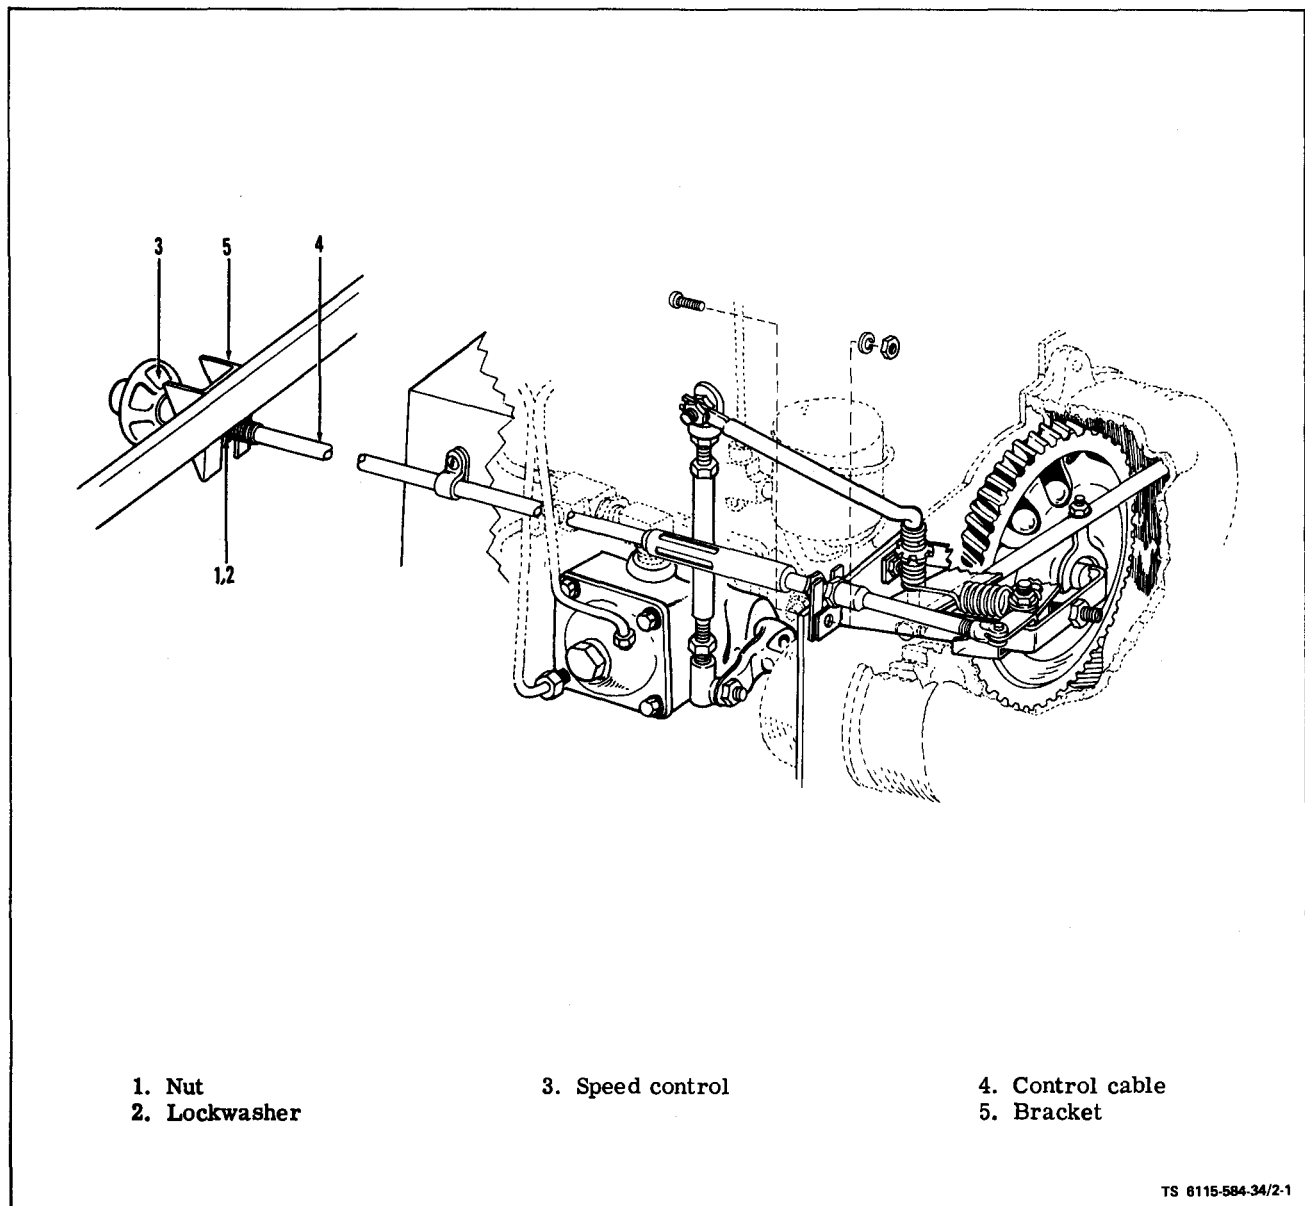
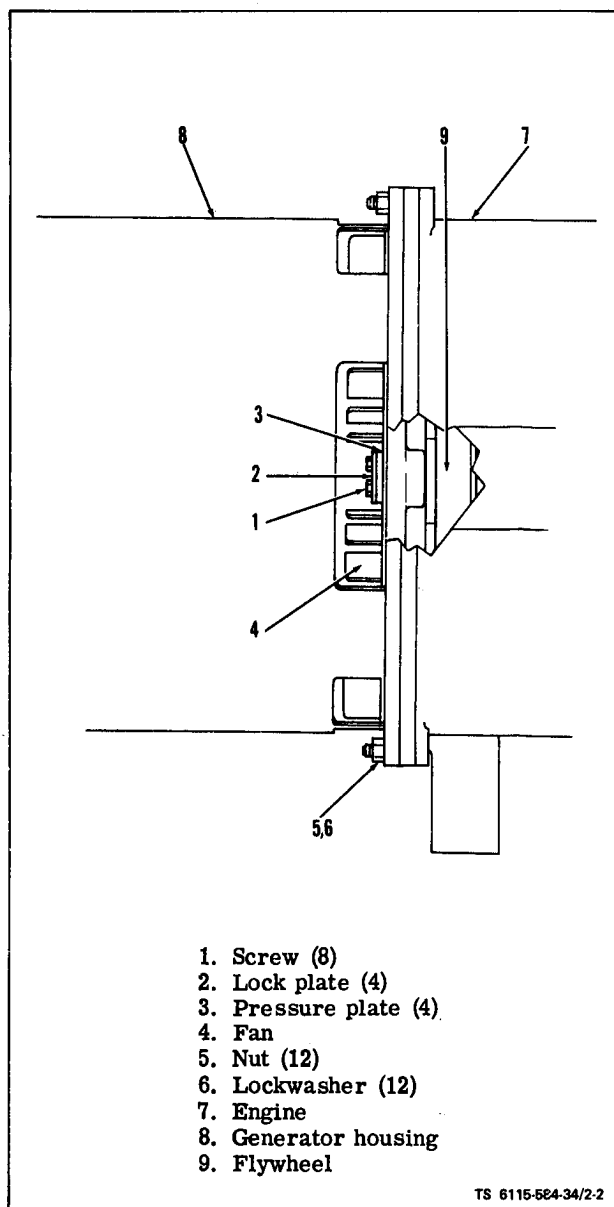

Figure 2-1. Speed Control Assembly
Figure 2-2. Disconnecting Engine from Generator
(1) Disconnect and remove batteries.
(2) Tag and disconnect battery cables and ground cable from starter.
(3) Tag and disconnect wiring harness and electrical leads from engine.
(4) Disconnect air cleaner hoses from shutter assembly and intake manifold. Remove air cleaner and bracket assembly from top of generator.
(5) Disconnect fuel line from fuel filter at fuel check valve. Disconnect flexible fuel return line to top of fuel injection pump.
(6) Disconnect oil drain hose from mounting on skid-base and drain oil.
(7) Disconnect and remove fuel tank.
(8) Disconnect speed adjustment assembly (see figure 2-1). Loosen nut (1) and lockwasher (2) and slide from bracket (5).
(9) Connect a suitable lifting device and support engine.
(10) Disconnect engine from generator assembly. See figure 2-2.
(c) Using a 5/8" socket wrench on hex head capscrew at center of blower wheel, rotate engine clockwise until one of the four sets of screws (1, figure 2-2) attaching generator fan (4) and coupling plate to engine flywheel is accessible thru opening in generator housing (8). Straighten locking tabs and remove the two screws (1) and the locking plate (2) and pressure plate (3).
(a) Install two 1/4- 20 x 2 in. pilot studs into the engine flywheel (9, figure 2-2) in two holes that are 180° apart.
(3) Attach engine speed control (3, figure 2-1) to bracket (5) and tighten nut (1).
(4) Refer to Operator and organizational Maintenance Manual and proceed as follows:
(a) Install two 1/4-20 x 2 in. pilot studs into the engine flywheel (9, figure 2-2) in two holes that are 180° apart.